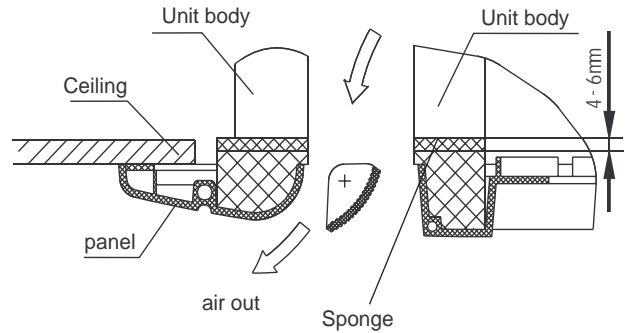

Fig.25
4. Adjust the 4 bolts to keep the panel horizontal, Close the bolts until thickness of the sponge between the body and the panel has been reduced to about 4~6mm. (Fig.25)
6. Close the bolts under the panel hooks, until the thickness of the sponge between the body and the panel has been reduced to about 4~6mm. (Fig.25)